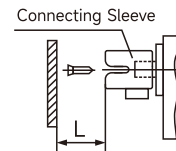

Figure 32
(1) As shown in Figure 32, fix the switch vertically on the mounting plate inside the switchgear and place it in the disconnected "0" position; Then use flat head screws to fix the connecting sleeve on the square shaft of the switch, and make the convex rib point towards the "0" position of the switch; Measure the distance L from the top of the connecting sleeve to the inner surface of the cabinet door